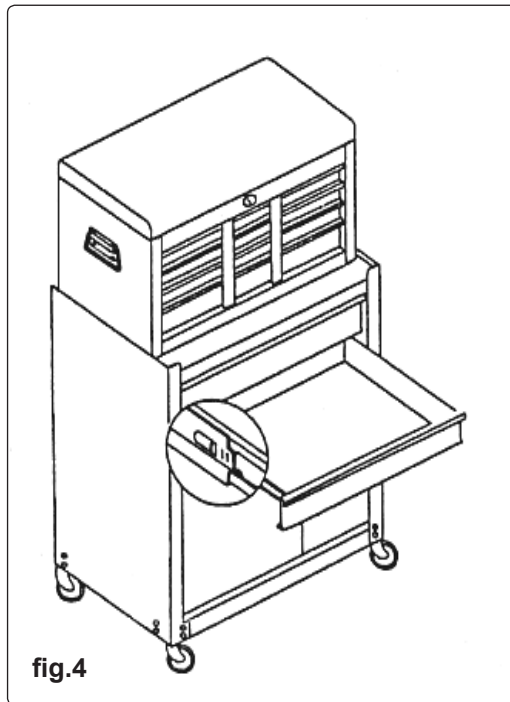

fig.4
- 3.8 Upright the rollcab and place the topchest on top as shown in fig.4.
- 5.1 Periodically lubricate the drawer slides, fig.4.